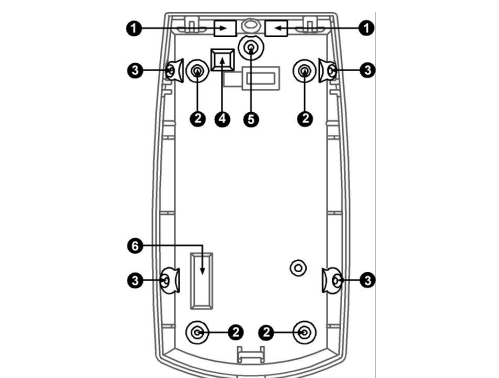

Fig 1 Knockout holes I Orificii de străpungere I Trous de débouchure I Fori ciechi I Otvori montážové
- Break out the desired holes for proper installation (Fig. 1 – 2) for flat mount or Fig. 1-3 for corner mount) Use 4 screws type 3x30mm.